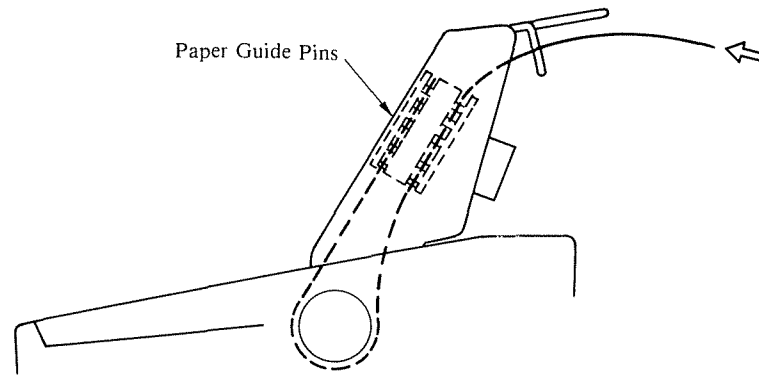

Figure 5
7. Gently pull the paper up to the Tractor Feed Paper Guide Pins. (See Figure 5.)